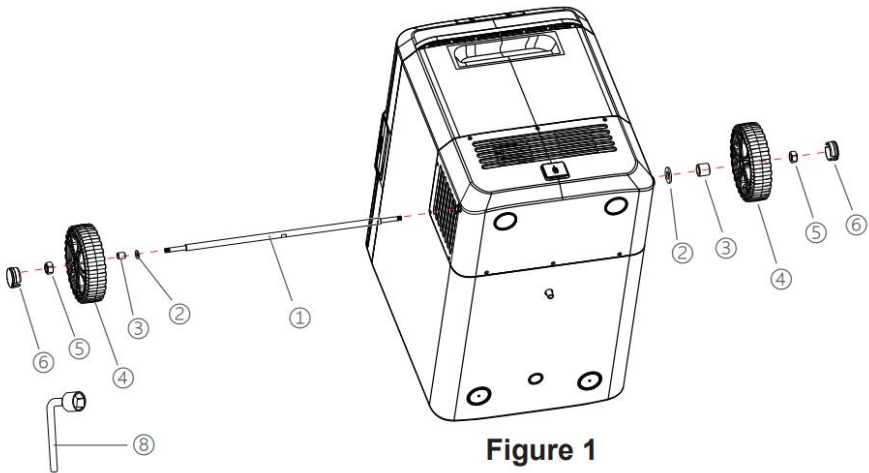

Figure 1
1. Pass the ① shaft through the back of the unit.
2. As shown in Figure 1, place the ② flat washer, ③ sleeve bearing, and ④ wheel in sequence
3. Tighten the ⑤ nut with the ⑧ spanner, and cover it with the ⑥ nut cover.